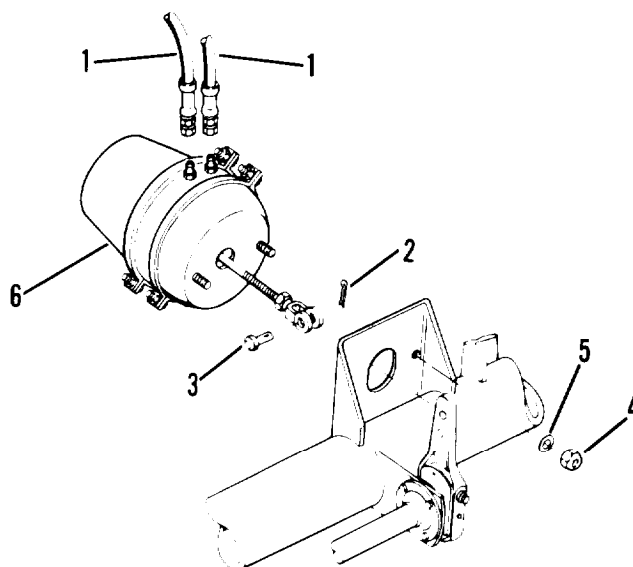

Figure 4-32. Air brake chamber
- (1) Tag and disconnect two air lines (1, figure 4-32) from air chamber (6).
- (2) Remove cotter pin (2) and clevis pin (3). Remove clevis from slack adjuster.
(3) Remove two nuts (4) and two washers (5).
(4) Remove air brake chamber (6).
(1) Install air brake chamber (6, figure 4-32) in position.
(2) Install two washers (5) and two nuts (4).
(3) Position clevis on slack adjuster and install clevis pin (3) and cotter pin (2). Check slack adjuster adjustment (para. 4-30).
(4) Connect air lines (1).
(5) Close drain cock on air reservoirs and pressurize air brake system.